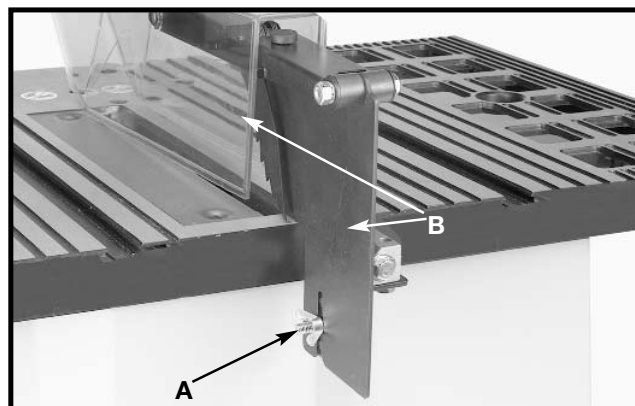

Fig. 44
Before dadoing, loosen wing nut (A) Fig. 44 and take off the blade guard and splitter assembly (B). Keep assembly handy to replace it after dadoing.